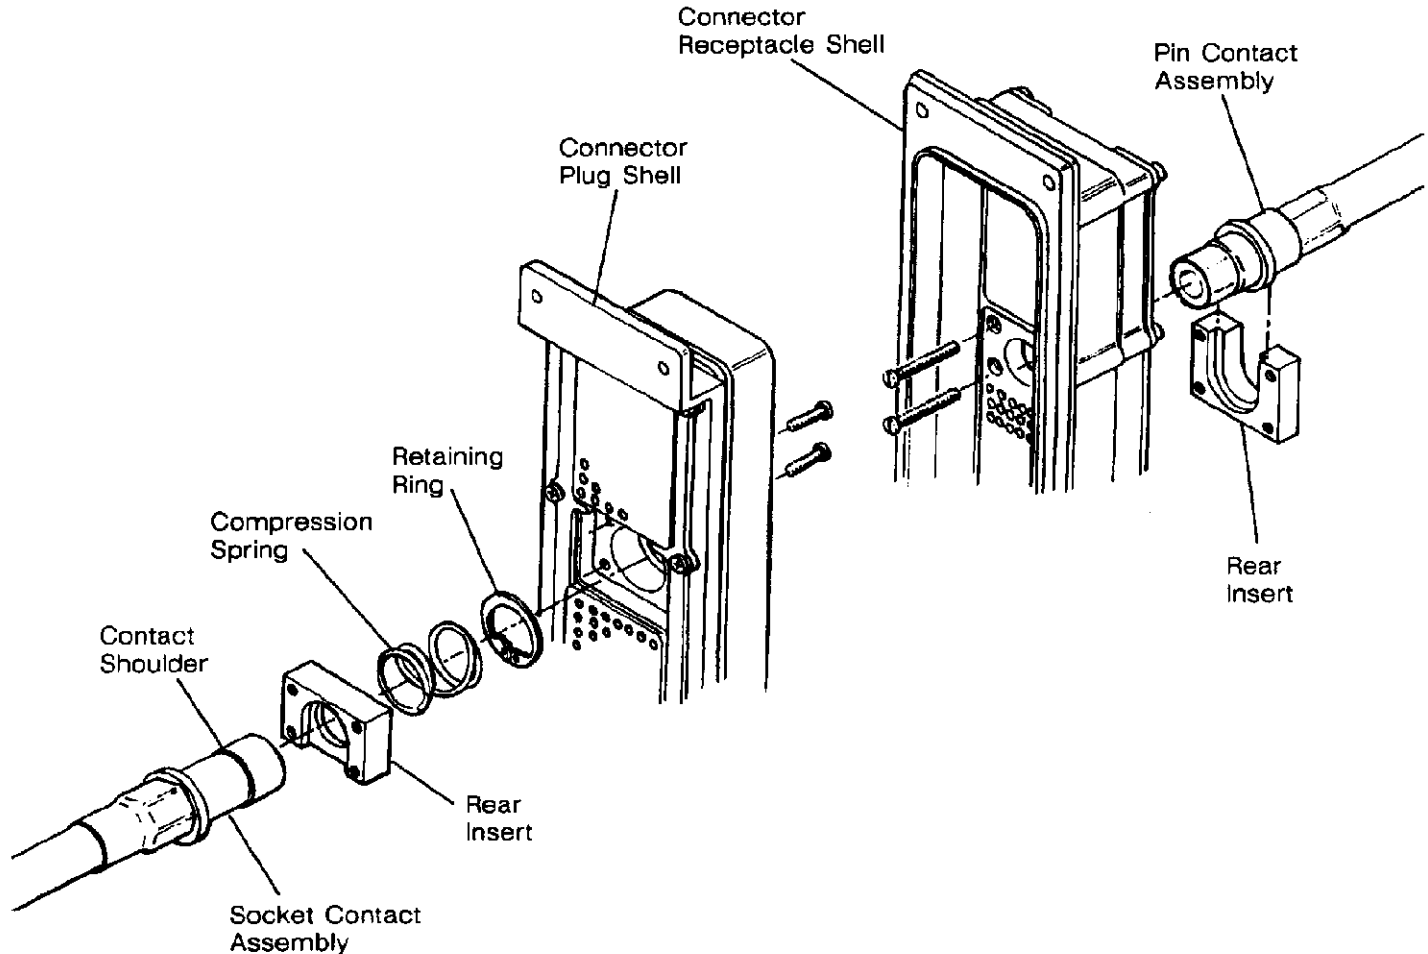

Fig. 7. Installation in ARINC 600 Connector
3.4. Installing Contact Assemblies in ARINC 600 Connectors (See Figure 7)